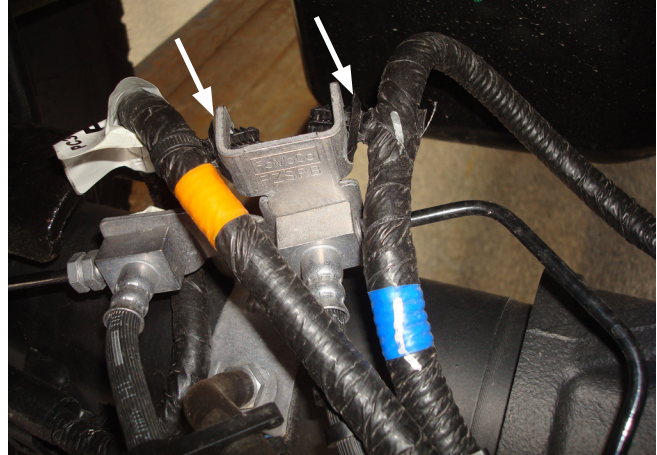

Fig. 18
1. Pry out the top left, bottom left, and the top right ABS harness mounts from the Brake line/ABS harness/vent tube bracket on the axle (Figs. 18 & 19).